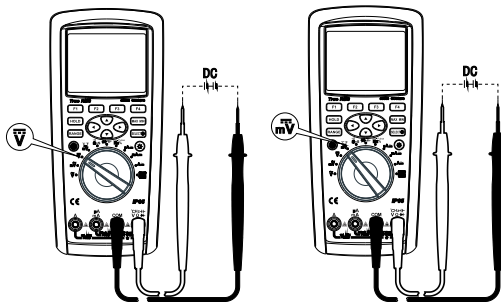

Figure 6
- 2) Set the rotary switch to DC V or DC mV as shown in Figure 6.